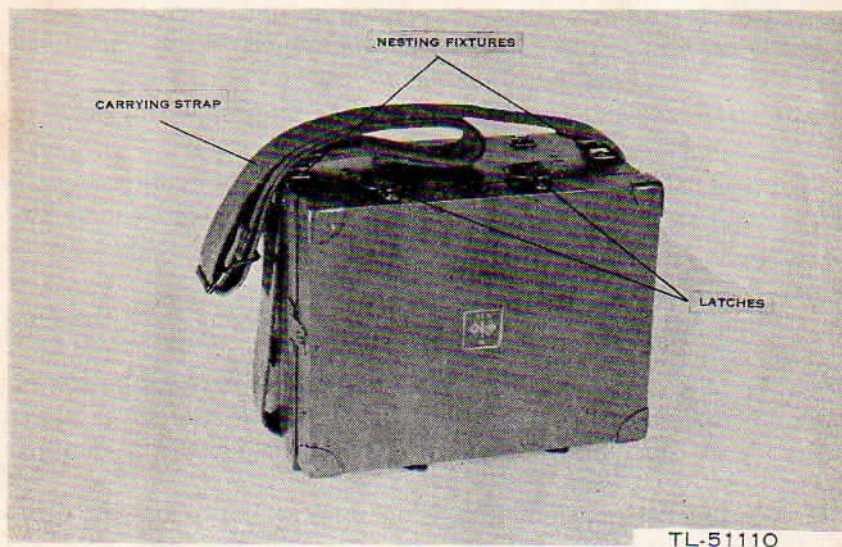

Figure 3. Switchboard SB-5/PT, Prepared for transportation.
*a. Box (fig. 3).* The box is a plywood case containing the associated necessary hardware for securing the cover, the panel, and the carrying strap, and for fastening the switchboards together. The box is provided with valances and a molded rubber gasket. All screw holes are caulked to make the box as watertight as possible.
**3. PREPARING SWITCHBOARD SB-5/PT FOR INSTALLATION (figs. 3 and 4).** Install the switchboard in a manner which will